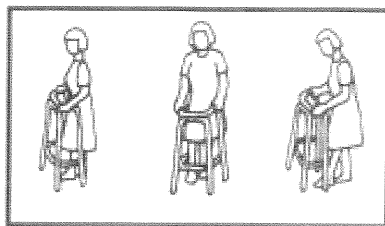

FIG. 3
2. When steady, lift the frame forward a short distance (if using a wheeled frame, **push** it forward) and repeat this process (Fig 3).